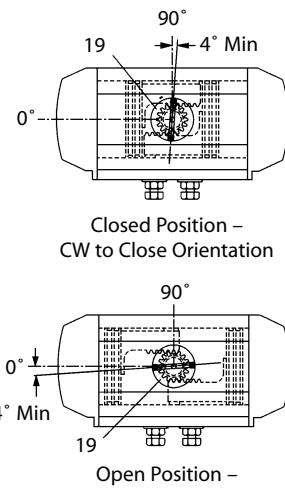

Figure 13
- H. Temporarily install the position indicator (19) onto the shaft (60) to determine whether the correct stroke is obtained. Verify that the slot in the top of the position indicator (19) will rotate a minimum of 4° beyond the 90° vertical centerline of the actuator body (50) and a minimum of 4° beyond the 0° horizontal centerline of the actuator body as shown in (**Figure 13**). If the proper stroke is not obtained, remove the pistons and repeat from step 2d. Once the proper stroke is verified, remove the position indicator (19).